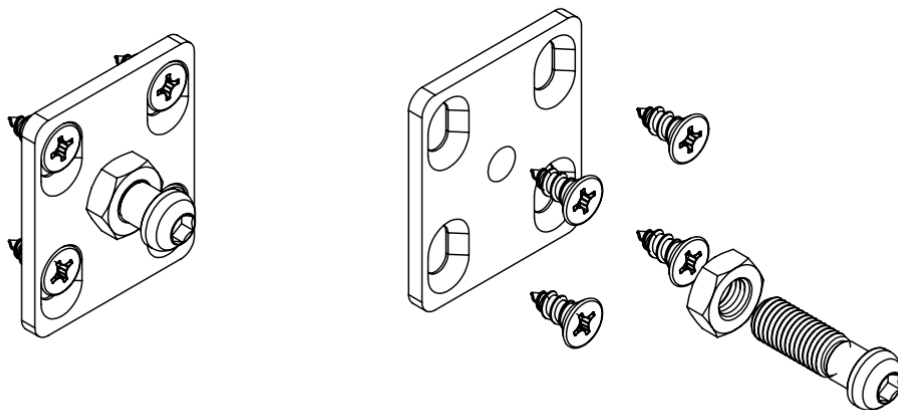

Figure 4
6. Drill four (4) 3/16" clearance holes at the marked locations of the strike plate. Anchor the lock strike to the jamb with #10 x 2-1/2" PH Flat Head screws. Shim as needed to avoid bowing the frame. For Bi-part conditions use #10 x 1/2" PH Flat Head Screws (See Figure 4).